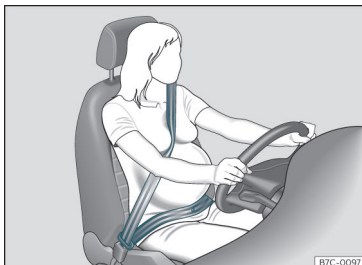

Fig. 11 Position of seat belt during pregnancy.
In the case of **pregnant women**, the seat belt must lie evenly across the chest and as low as possible over the pelvis, never across the stomach and must be worn properly at all times during the pregnancy »» **Fig. 11**.
- For pregnant women, the lap part of the seat belt must lie as low as possible over the pelvis and always lie flat, “surrounding” the stomach »» **Fig. 11**.